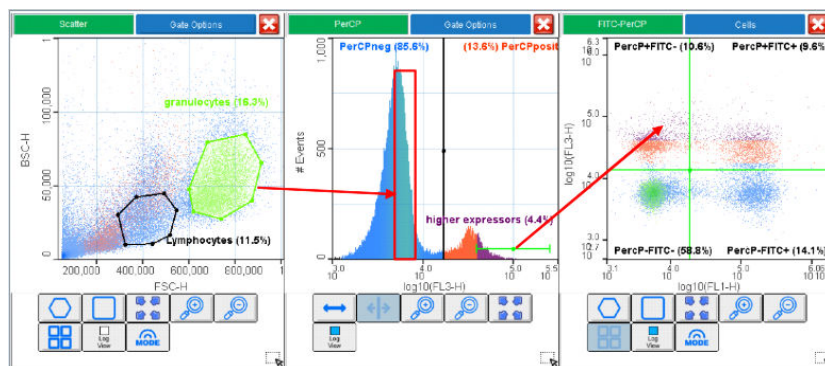

Figure 41. Applying color to gates in different plots.
3. Up to ten gates can be colored in a plot. Gates in different plots can also be colored. The color pattern will appear superposed (Fig. 41).